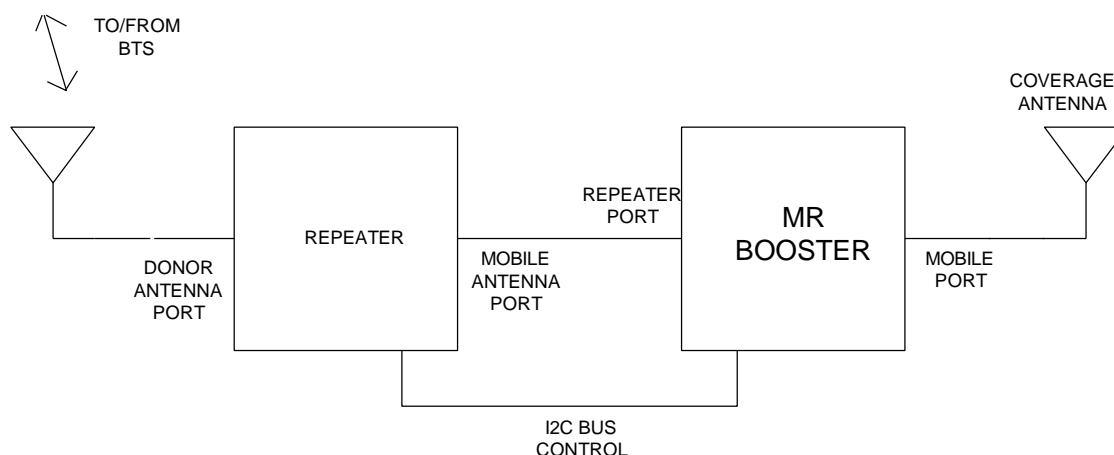

Figure 3-5. Typical MR Booster Application (Repeater)
Several connections are made through the I/O panel on the bottom of the repeater. Figure 3-5 shows the position of applicable connectors.
Refer to Figure 3-5 for an example of an application in which the MR Booster is used to boost a repeater. For additional information regarding system optimization, please contact Mikom technical support at 1 (800) 800-3224.